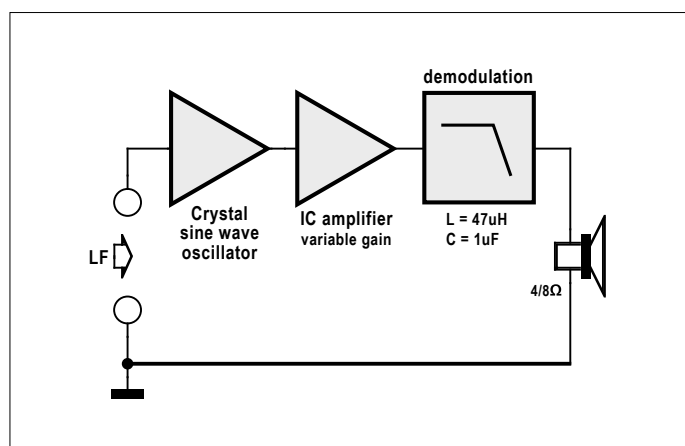
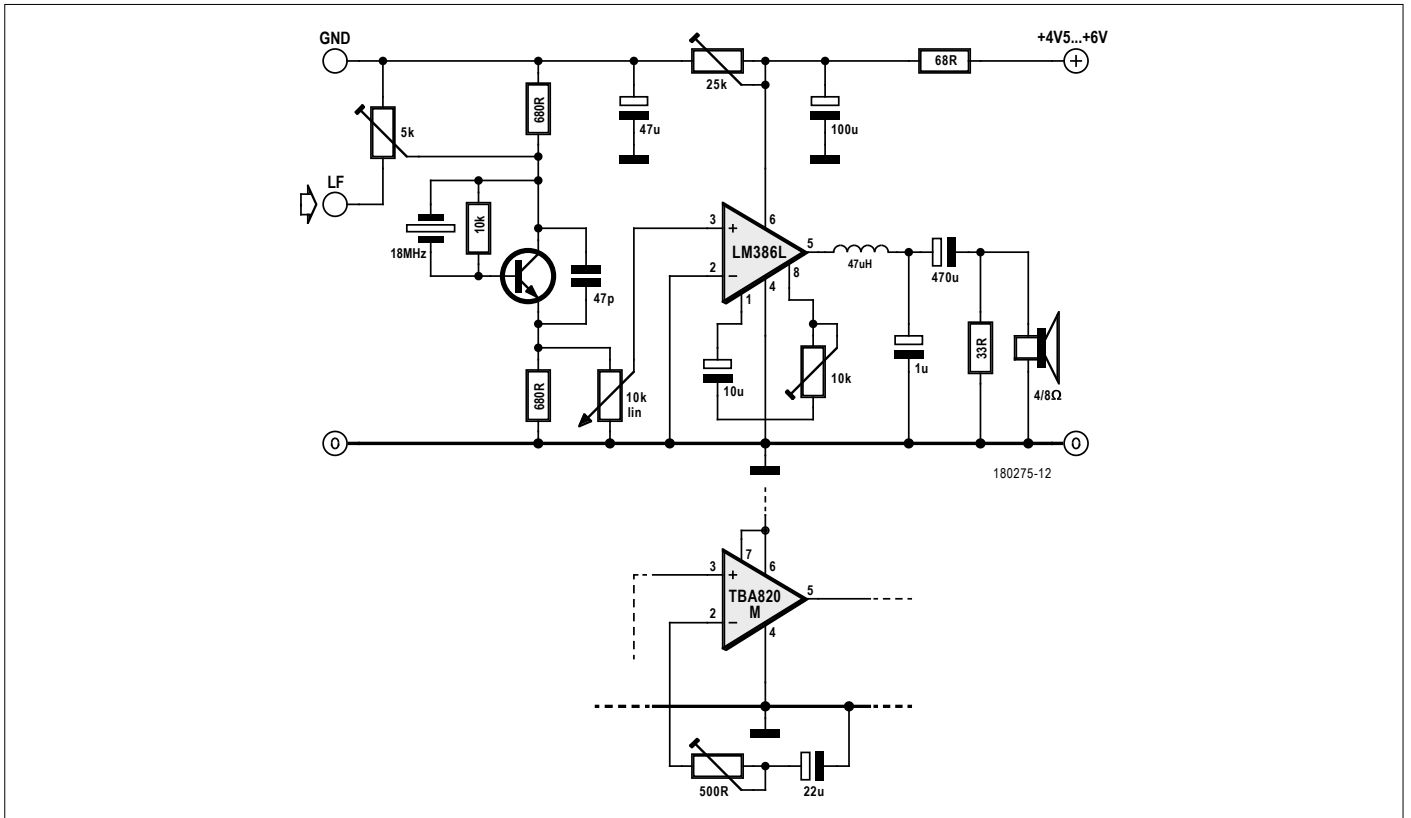

Figure 1. Sinusoidal self-oscillating FM amplifier.
Figure 2. A frequency-modulated LF amplifier using an LM386 or TBA820M.
My own personal opinion is that VHF frequency modulation (FM) is one of the most important inventions in the field of electronics! Find out for yourself and probe a bit deeper by building the really simple experimental test setup shown in **Figure 1**. The sinewave generator is built using a capacitive 'three-point oscillator' circuit. The circuit of the self-oscillating sinewave generator (**Figure 2**) is built around a single transistor which produces a 'pullable' oscillator. This allows an externally applied voltage to modulate the crystal operating frequency. The 10-kΩ resistor between the base and collector of the transistor adds some damping to de-tune the oscillator network which has the effect of widening its pull-in range.